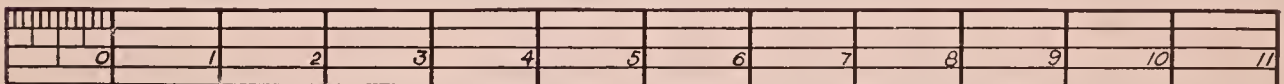

FIG. 2.
B. *Make a paper scale of $\frac{1}{2}''=1'$ as in Fig. 2. Consult instructor for method of dividing first half-inch into twelfths.*